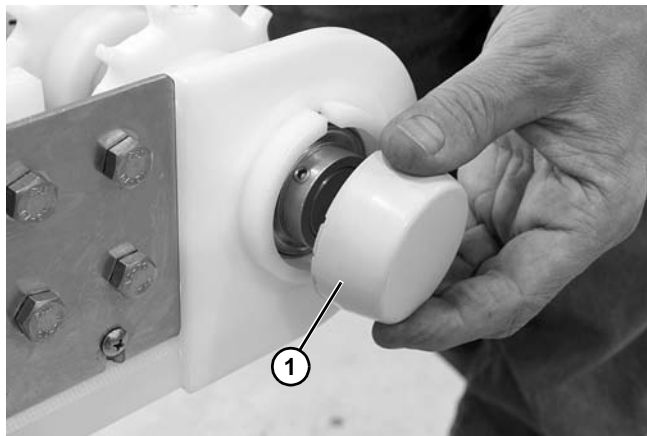

Figure 50
3. Remove bearing cover (**Figure 50, item 1**).